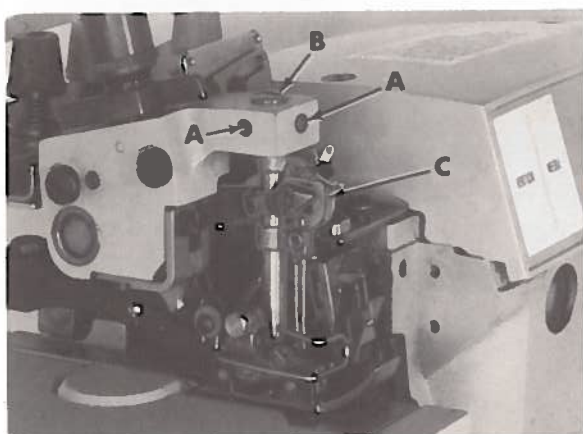
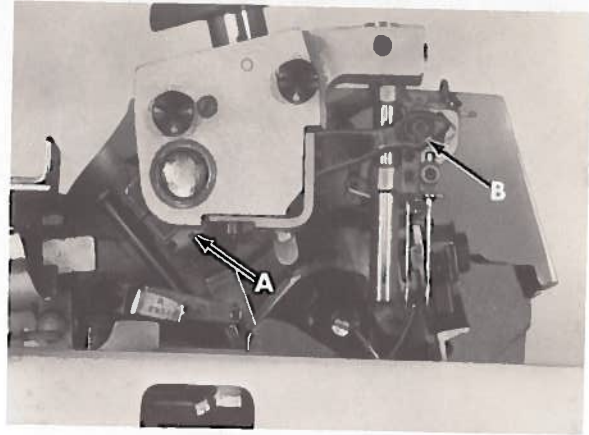

Fig. 5
Fig. 6
If adjustment is required, loosen screws (A, Fig. 5) and needle lever binder screw (A, Fig. 6). Align needles to center in throat plate needle slots by turning eccentric needle head guide bar (B, Fig. 5). Position needle lever to left or right on its cross shaft to correspond with the repositioning of eccentric guide bar. Manually move needle head (C) up and down several times to ensure that the needle lever aligns with the needle head. Tighten screws (A). Temporarily tighten screw (A, Fig. 6) and proceed to needle height adjustment.
If adjustment is required, loosen binder screw (A, Fig. 6) and position needle lever (B) up or down as required to attain specified dimension. Tighten screw (A, Fig. 6). Rotate handwheel in operating direction and check for binds in needle head assembly. Should a bind exist, refer to NEEDLE ALIGNMENT.